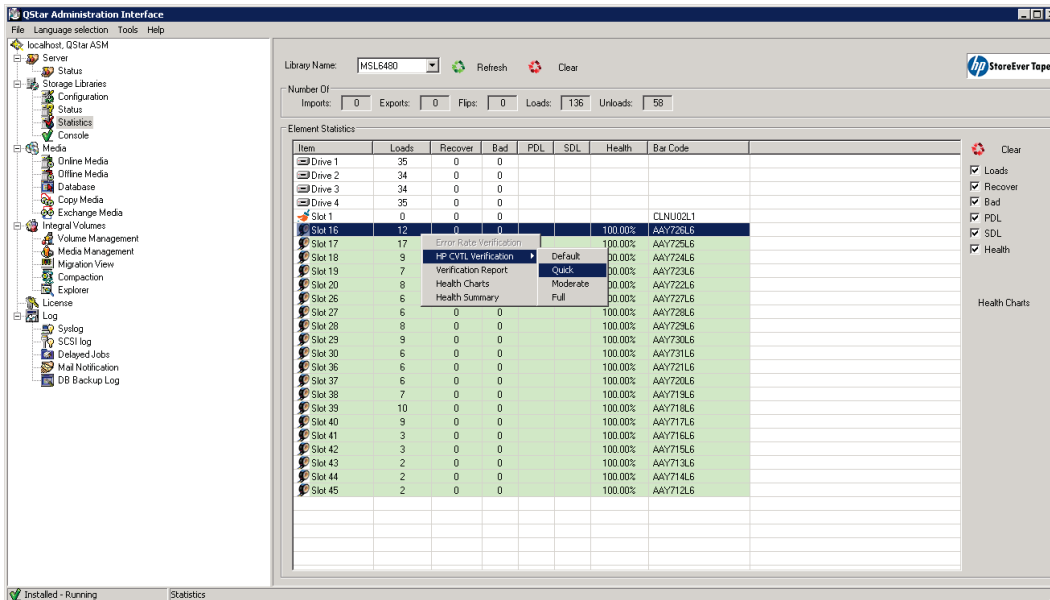

Figure 23. Manually running verification for tape media
2. Right-click on any **Slot** (the barcode for each slot is also listed), which is your tape cartridge, and one of the available options listed will be **HPE CVTL Verification**. You can then choose to run a **Quick**, **Moderate**, or **Full** verification of the selected media. See figure 23 as an example. For more information on how long each data verification test will take to complete, refer to the section **Example Verification Times** of the technical white paper on HPE StoreEver Data Verification titled Protecting Your Data.
5. You can view a graphical representation of various statistics for each media in your HPE StoreEver Tape Library while on the **Statistics** page under **Storage Libraries** in the QStar Administration Interface by right-clicking on the preferred **Slot** then choose **Health Charts** or select the preferred **Slot** then click on the **Health Charts** button (both Health Charts selections can be seen in **figure 23** above).